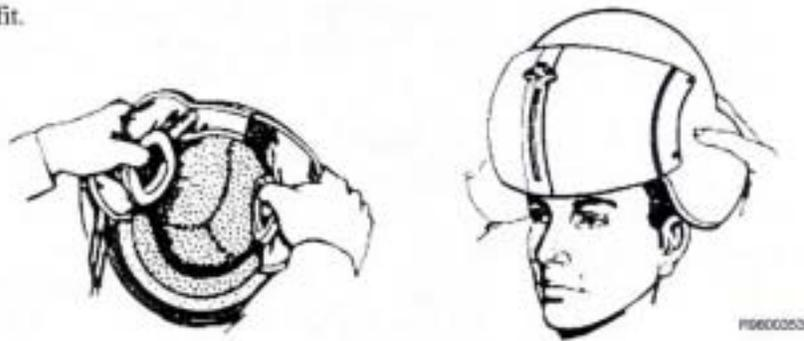

Figure 3. Donning Helmet
1. Have the crewmember don the helmet as follows (see Figure 3):
- Grip the retention assembly below the earcups as shown in Figure 3, View A.
- Spread the sides of the helmet slightly and position the front edge firmly against the forehead as shown in Figure 3, View B.